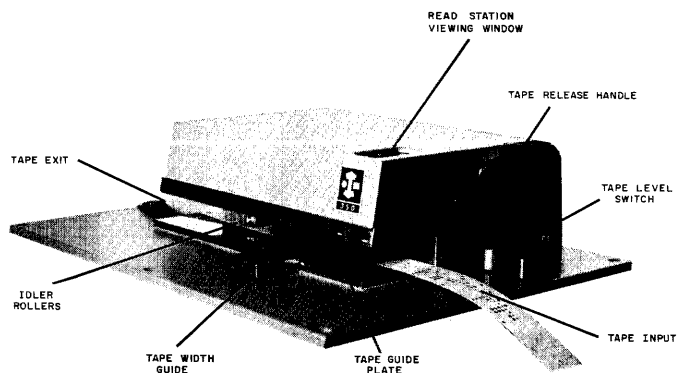

Figure 8. 8074 A/B Paper Tape Reader
5. Insert the tape in the reader between the idler rollers (figure 8). The highest level hole is toward the open side. Be sure the tape is seated correctly in the tape guide.